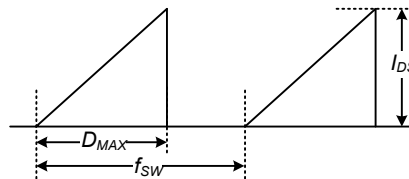

Figure 4. Repetitive Peak Switching Current
- Repetitive peak switching current when the inductive load is assumed: Limited by maximum duty (D_{MAX}=0.75) and junction temperature (see Figure 4).